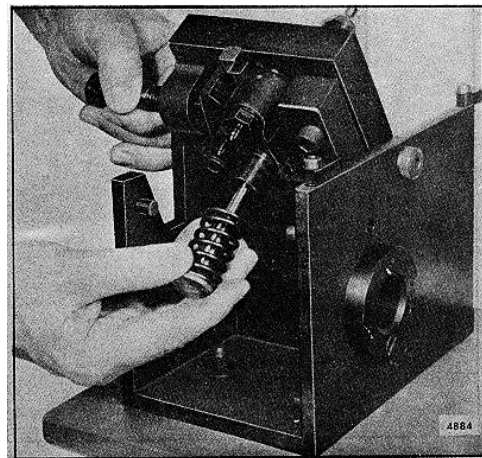

FIG. 24 - Removing or Installing Plunger Follower, Plunger and Spring
3. Refer to Fig. 24 and remove the plunger follower, plunger and spring as an assembly.